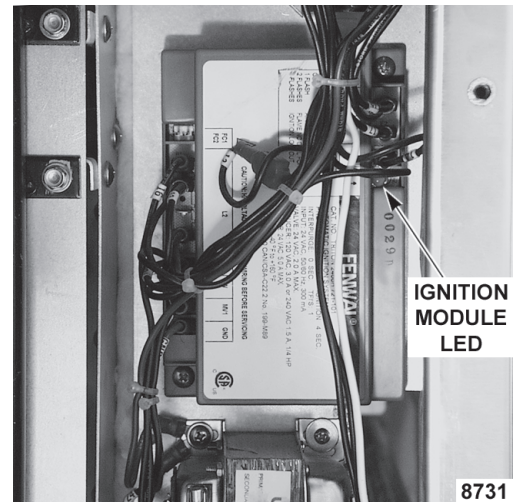

Fig. 10
- I. Observe LED on ignition module (Fig. 10). The module should go into lockout. (See following chart.)